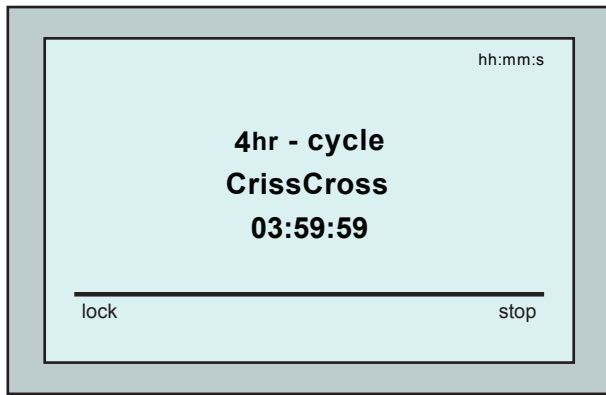
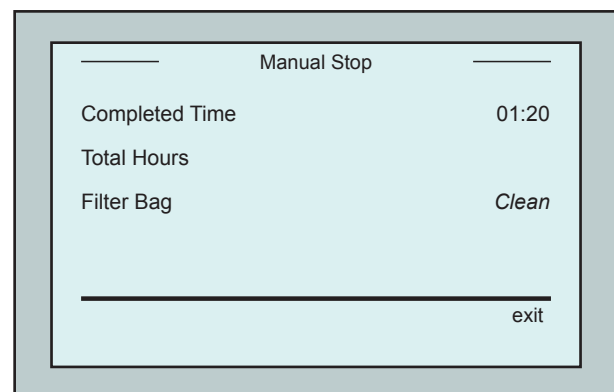

Figure 4: Countdown screen for 4 hour session
Figure 5: Manual Stop screen
To avoid unauthorized changes to the MMI settings you can lock the MMI's keyboard: From the *Countdown* screen, press **Lock** (Figure 4).
- From the *Countdown* screen (Figure 4), press **Stop**. The MMI screen displays the message: "Stopping robot – please wait". After 5 seconds the *Manual Stop* screen is displayed (Figure 5).